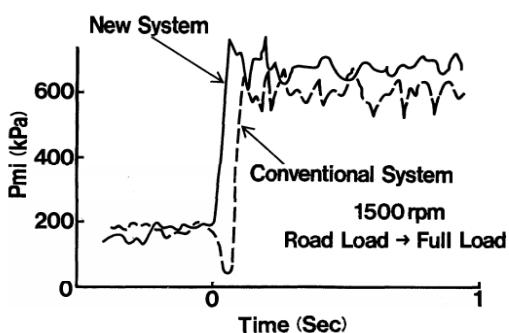

Fig.14 Variation of indicated mean effective pressure in abrupt acceleration
*As shown in Fig.14, using this new system now causes the indicated mean effective pressure to be raised simultaneously with acceleration instead of first suffering a loss during the initial stage of acceleration.*